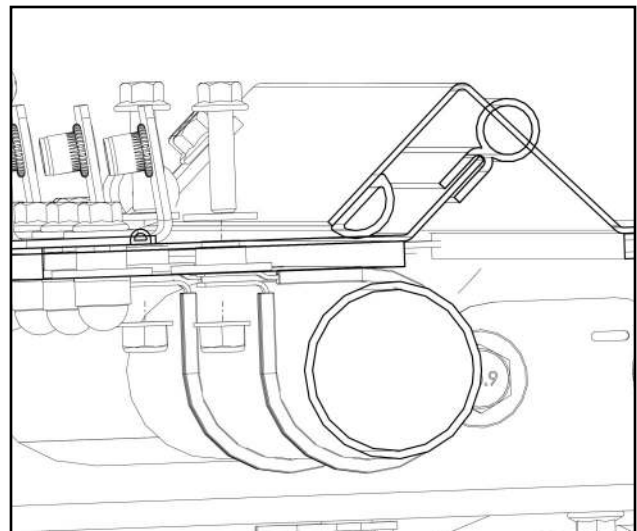

Fig. 3.4 Install P-Clamps onto ROPS
- 3.4 Install P-clamps onto the vehicle's ROPS per fig 3.4. Next, loosely install all fasteners to the roof so that the smaller diameter plastic washers are under the heads of the screws and the larger diameter steel washers are between the P-Clamps and headliner.